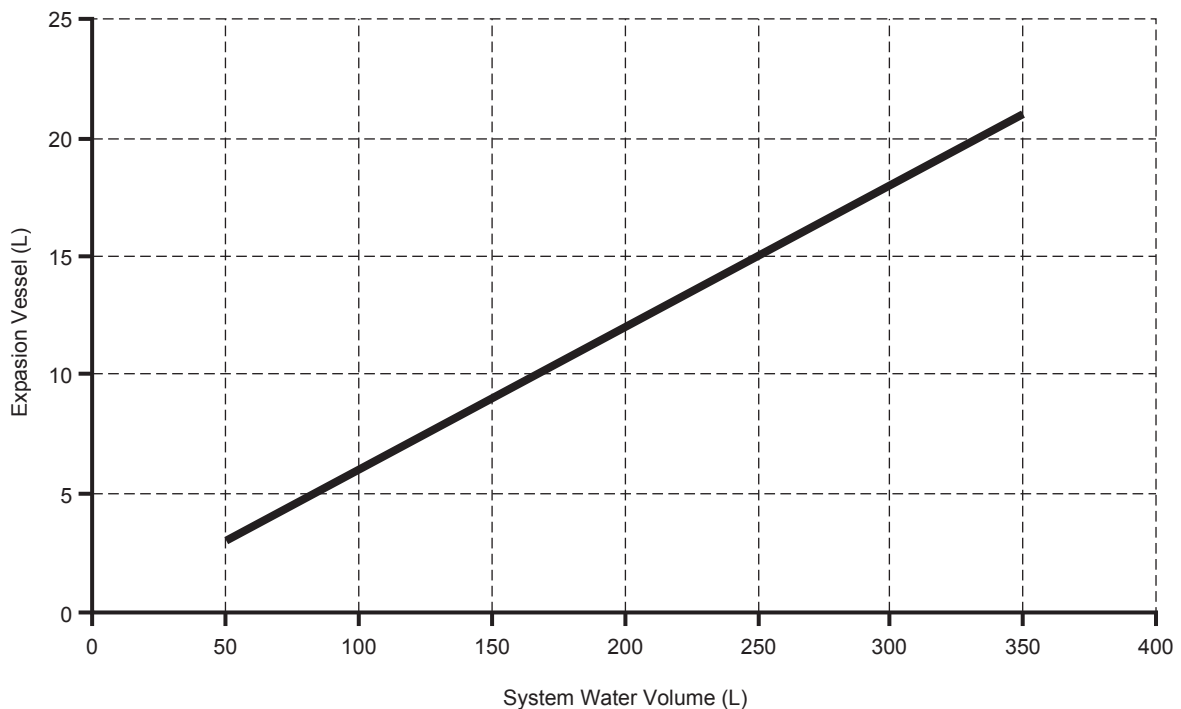

Fig. 36
- 3) To size the expansion for the heating and cooling circuit, the expansion vessel volume can follow Fig. 36 below: